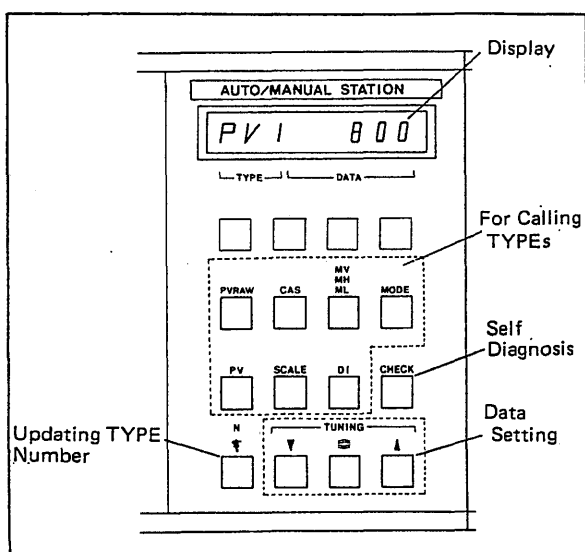

Figure 5-6. Keyboard Functions.
■ Keyboard Operation (see Figure 5-6).